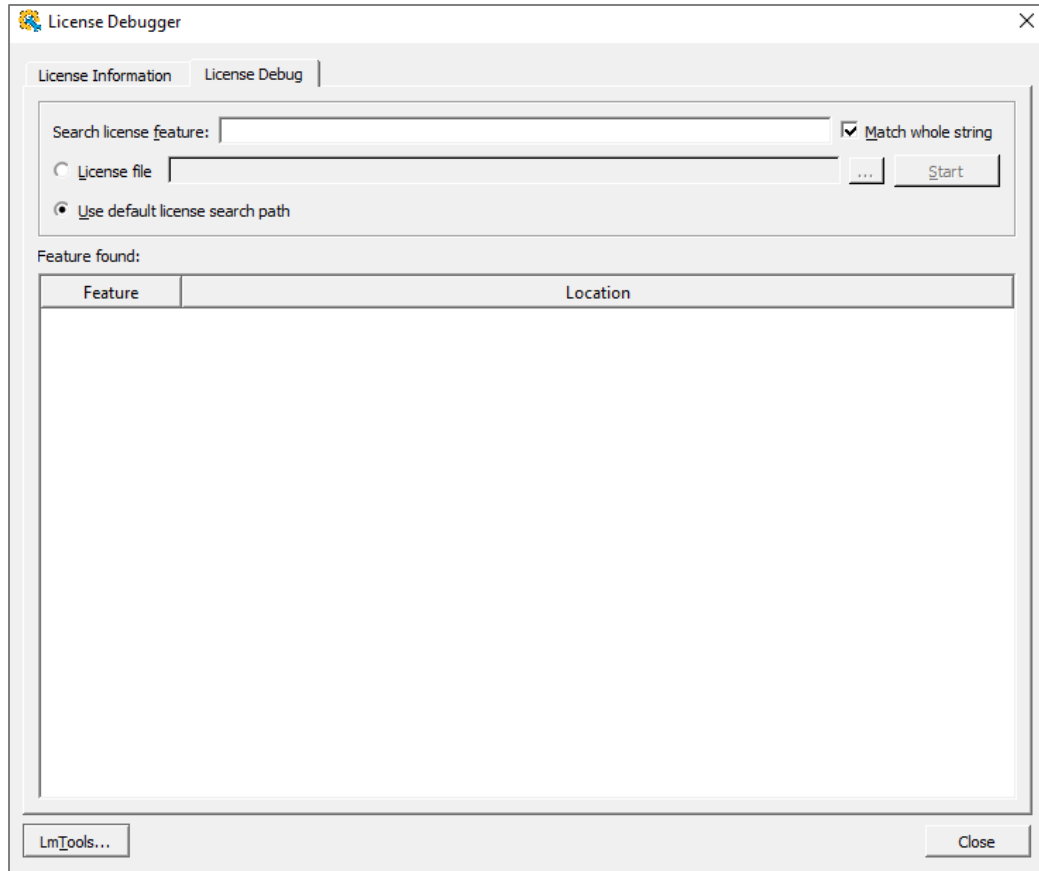

Figure 2.169. License Debugger Tool – License Debug
2. Click the License Debug tab (Figure 2.169).